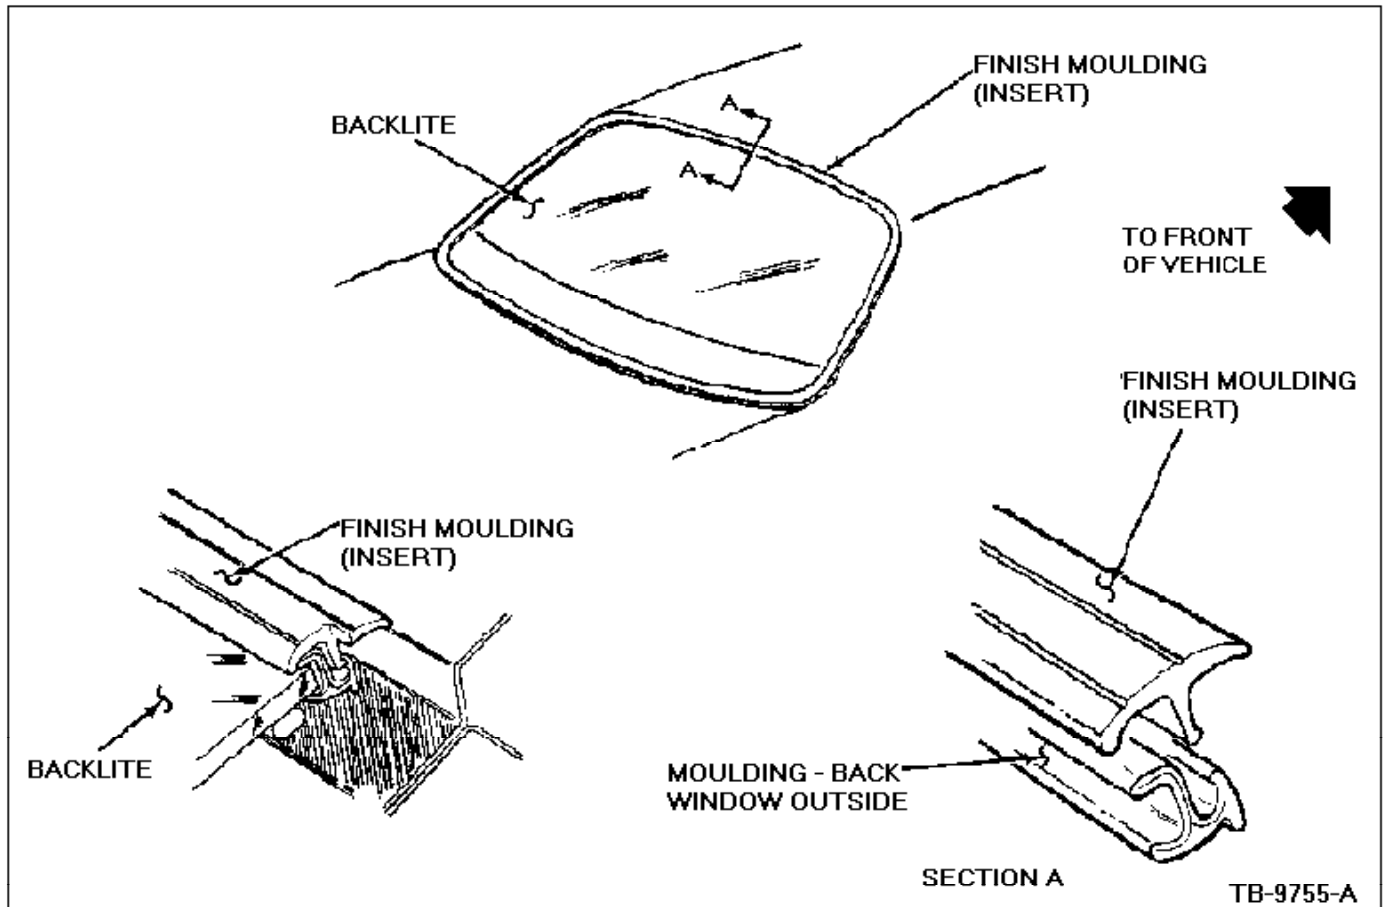

Figure 3 - Article 90-17-15
1. Place the front face of the fan pulley down on a flat surface, Figure 3.
6. Press the fan bracket into the fan pulley. Make sure the spacer remains centered, Figure 3.